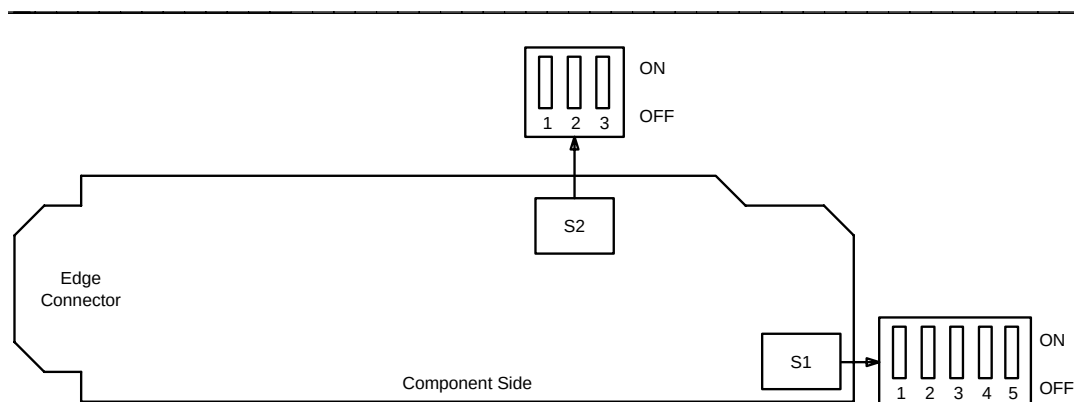

Figure 2. BBF2B TGS Option Switch
Determine timing mode from work order or office records. Refer to Table F and Figure 2 and set timing mode as required for **BBF2B TGS** circuit pack(s).
14. If the **BBF2B TGS** is provisioned for *sync out mode*, refer to Table G and Figure 2 and set equalizer switches for the proper cable length.
16. Refer to Table H and Figure 2 and set the DS1 line coding and frame format as required for the **TGS** circuit pack.